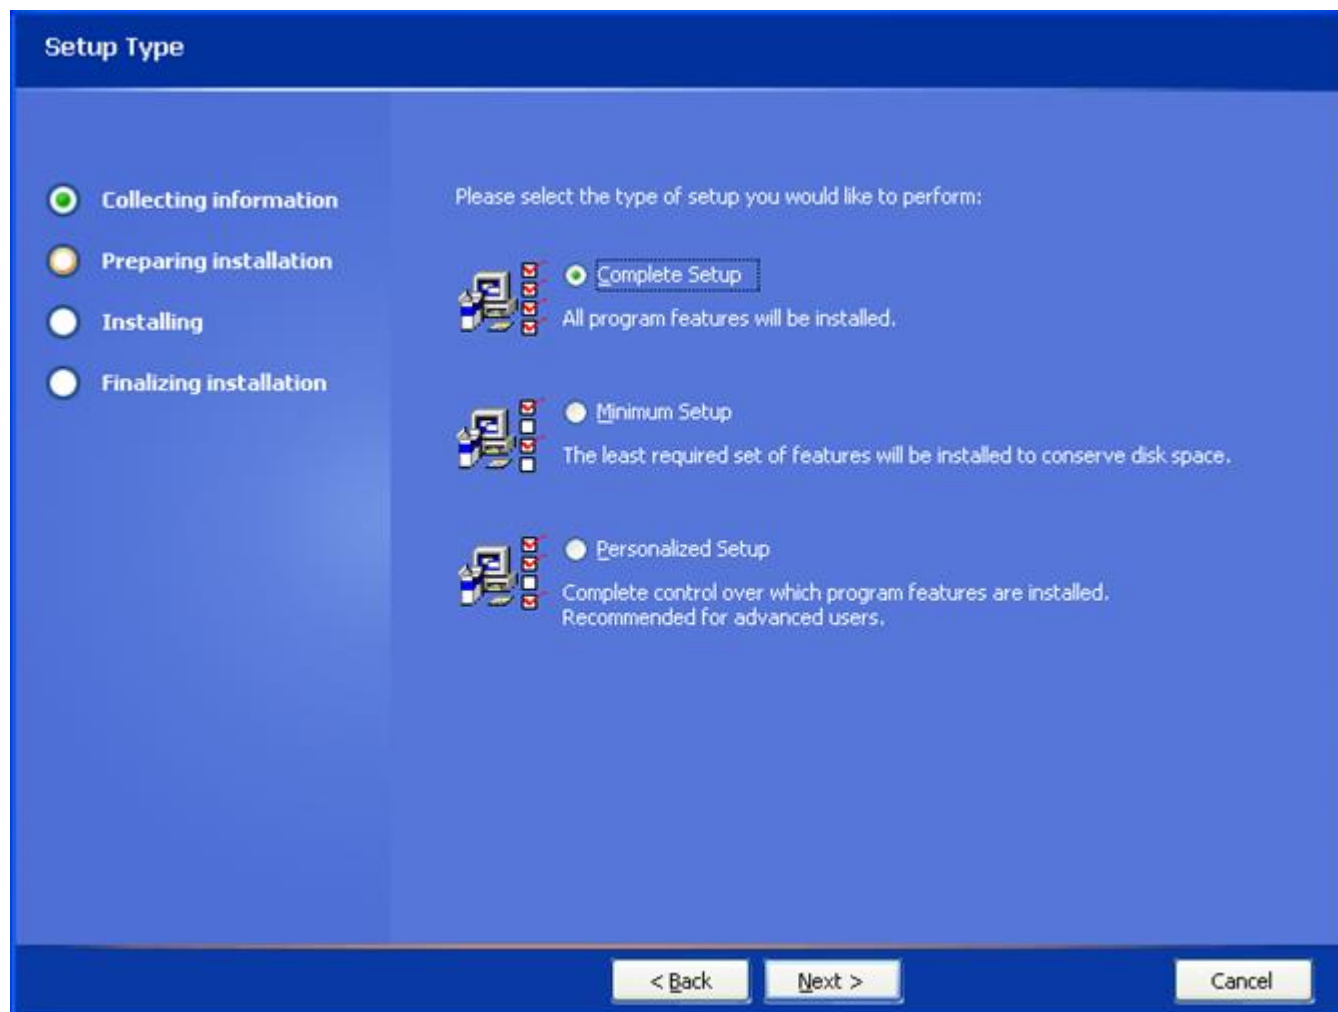

Figure 70 - Setup Type Screen
8. Click on the **Next** button. The **Setup Type** screen (Figure 70) appears.